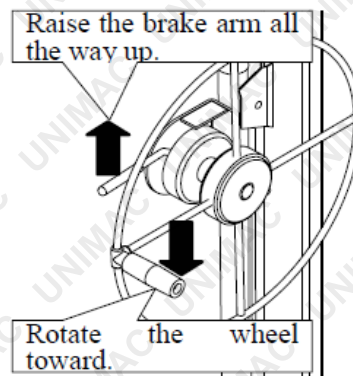

Fig. 6
- Raise the brake arm all the way up. Rotate the winch wheel towards it to release the cable fully, as shown in Figure 6.